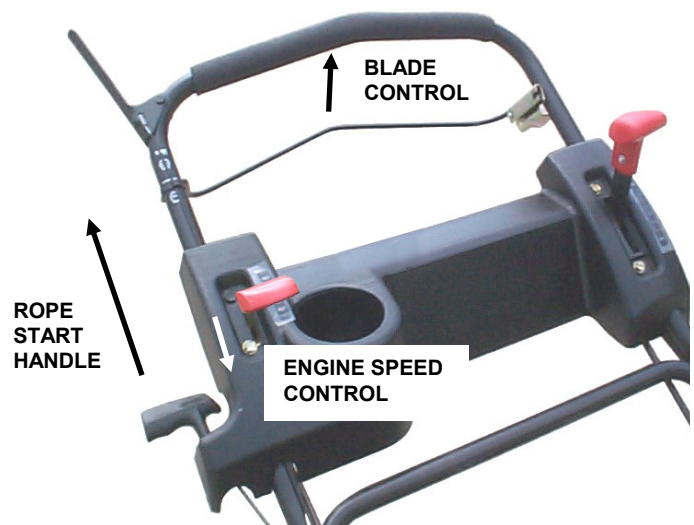

FIGURE 2.4
1. Move engine speed control to "Fast" (Rabbit) position. See Figure 2.4 and "FAMILIARIZATION".